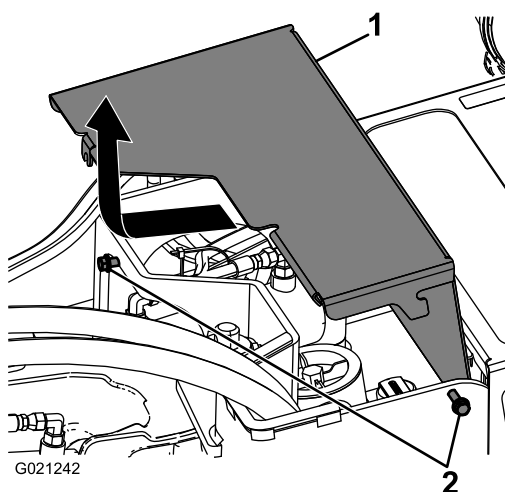

Figure 1
3. Loosen the 2 bolts securing the front cover to the machine (Figure 1).
4. Slide the cover forward slightly and pull up to remove the cover (Figure 1).
5. To install the front cover, slide the front cover into place and tighten the 2 bolts that you loosened previously (Figure 1).